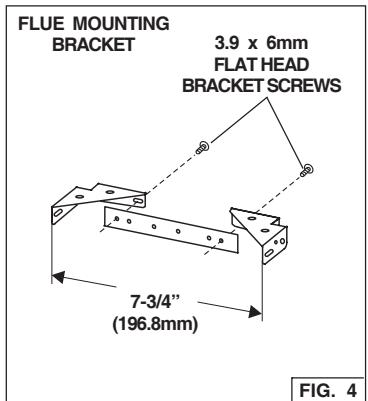

FIG. 4
1. Assemble the flue mounting bracket, adjusting outside width as shown. Fig.4
3. Secure the bracket assembly to the ceiling using (2) 4.8x38mm mounting screws and drywall anchors. Make sure the bracket is pushed into the corner, tight against the wall and centered over the hood.